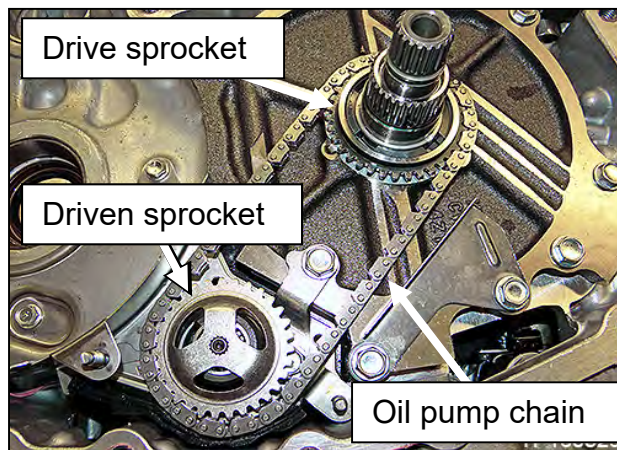

Figure 40
23. Remove the oil pump chain, driven and drive sprockets as one assembly (Figure 40).